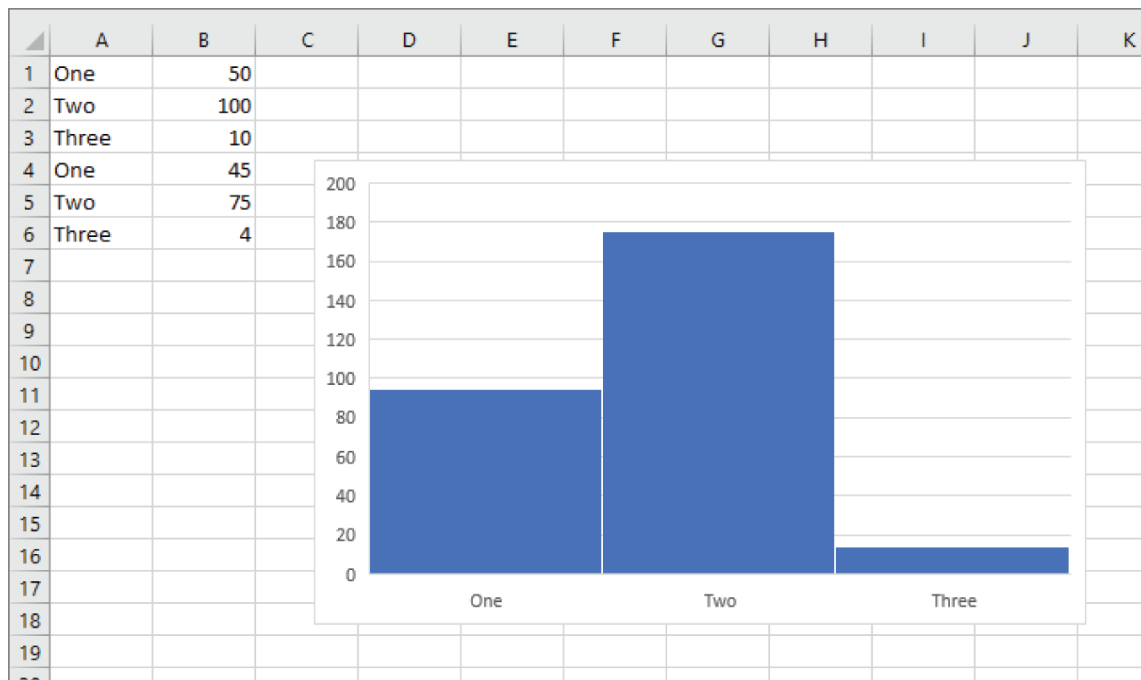

Figure 8.24: A histogram formatted by category
- **By Category:** By default, Excel groups the numerical data into bins and displays the range for each bin. If your data is already in bins, you can choose this option and include a column of bin names. Rather than count the number of data points, Excel sums the values. Figure 8.24 shows an example of a histogram formatted by category.